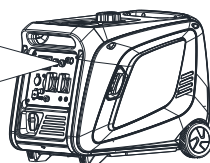

FIG.19
3. Pull the choke lever to the **START** position. Not necessary if the engine is warm. **FIG.19**